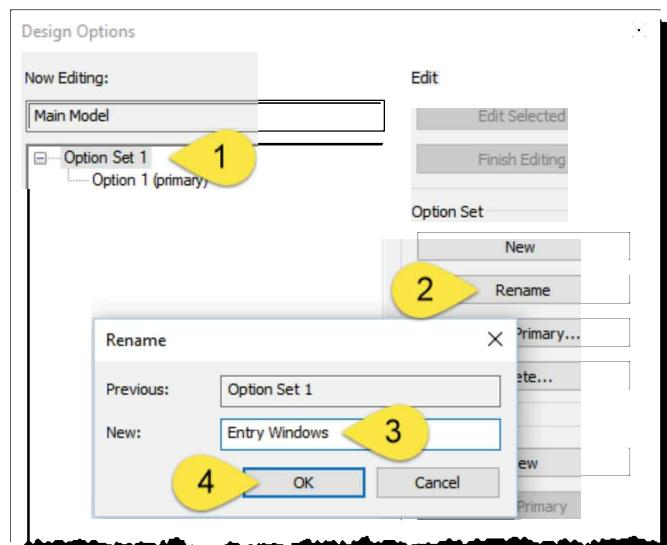

FIGURE 10-5.4 Rename Option Set dialog
5. In the *Rename* dialog type **Entry Windows** (Figure 10-5.4).